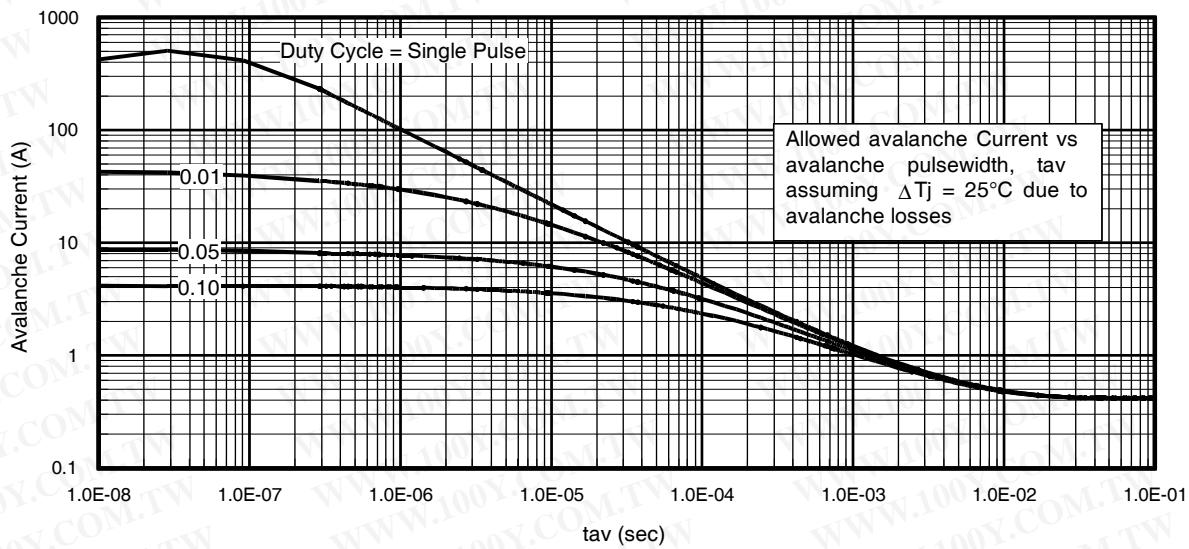

Fig 15. Typical Avalanche Current vs.Pulsewidth
Notes on Repetitive Avalanche Curves , Figures 15, 16:
7. ΔT = Allowable rise in junction temperature, not to exceed T_{jmax} (assumed as $25^\circ C$ in Figure 15, 16).